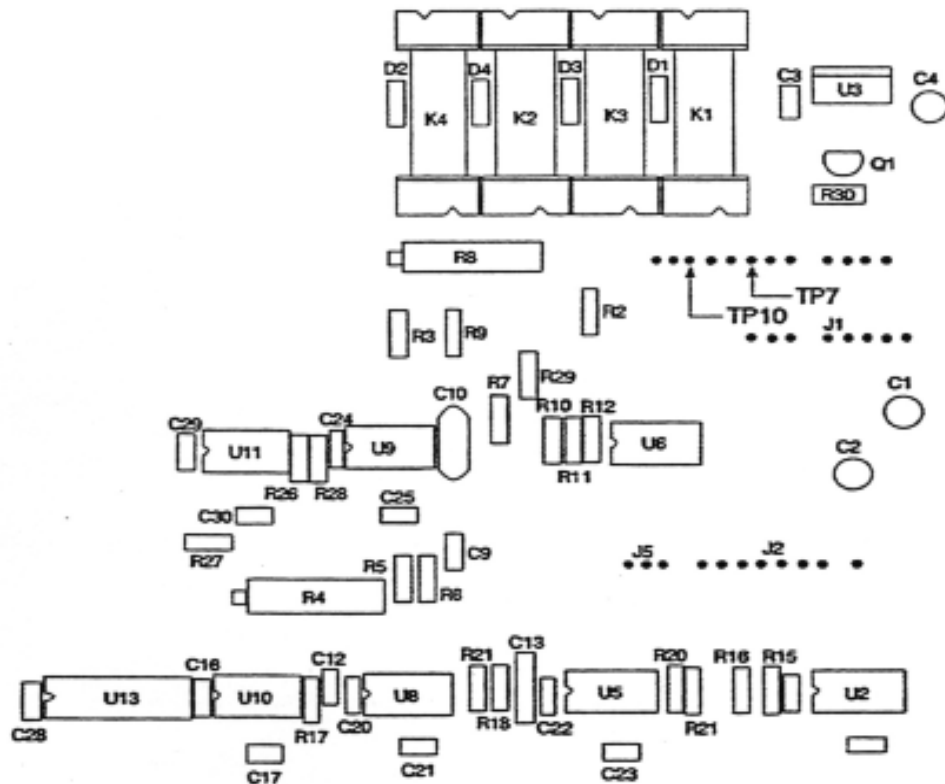

Fig. 13. Scan Rate Adjustment Test Points.
The third set of test points is located on the SCAN CONTROL BOARD. This board is mounted on the instrument's left hand rails, and is perpendicular to the MAIN BOARD. The test points are arranged in a vertical row toward the lower center of the board: See Fig. 13.
2. Connect a 10 k $\Omega$  resistor (supplied with the unit) to the CELL cable as shown in Fig. 13 (Connection to the voltmeter input as shown in the figure is not necessary for this adjustment.)
3. Locate the SCAN CONTROL BOARD (mounted on the left-hand rails of the instrument). Toward the lower center of the board, locate the row of SCAN CONTROL test points (see Fig. 13). Connect a dual-channel timer capable of measuring intervals in excess of 20 s to TP10 (Channel A) and TP7 (Channel B). Set the timer's controls to measure an interval of approximately 20 s, triggered on a positive-going voltage transition. Turn the timer on.
4. Locate the SCAN RATE BOARD, mounted directly behind the front-panel SCAN RATE SWITCH. Locate R4004 at the center of this board. Step (5) requires that this potentiometer be adjusted.
6. Change the INITIAL POTENTIAL to -1.000 and the FINAL POTENTIAL TO + 1.000. Set the timer to trigger on negative- going voltage transitions. The scan time should be 20 s  $\pm$  20 ms in spite of these changes. It may be necessary to adjust R4004 slightly to make the interval measured in this step equal to the interval measured in Step (5). If this is the case, repeat this step and Step (5) as necessary to make the intervals equal.